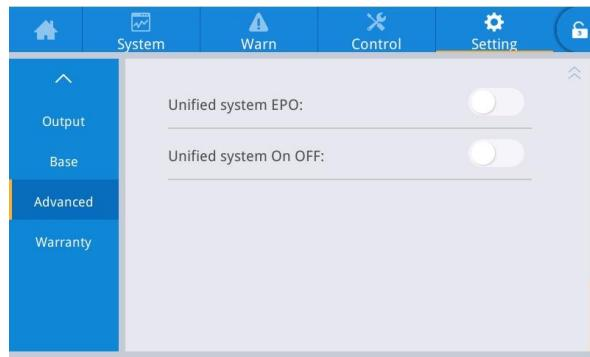

Fig.5-9 Unified System On/Off setting interface
5.Unified system on/off is enabled. If you need to set the parallel power on/off of the parallel system, you can set the [Unified System On/Off] option in the advanced parameter settings of the setting interface, as shown in Figure 5-9.